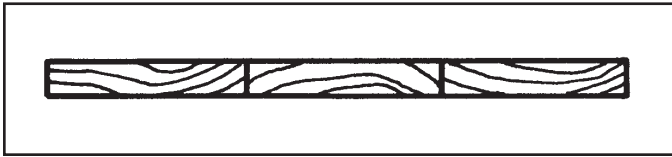

Figure 1
1. Construct top lid X using three pieces of lumber, reversing direction of the grain and gluing and clamping (this will minimize warping). See Figure 1. Allow glue-up to dry thoroughly.